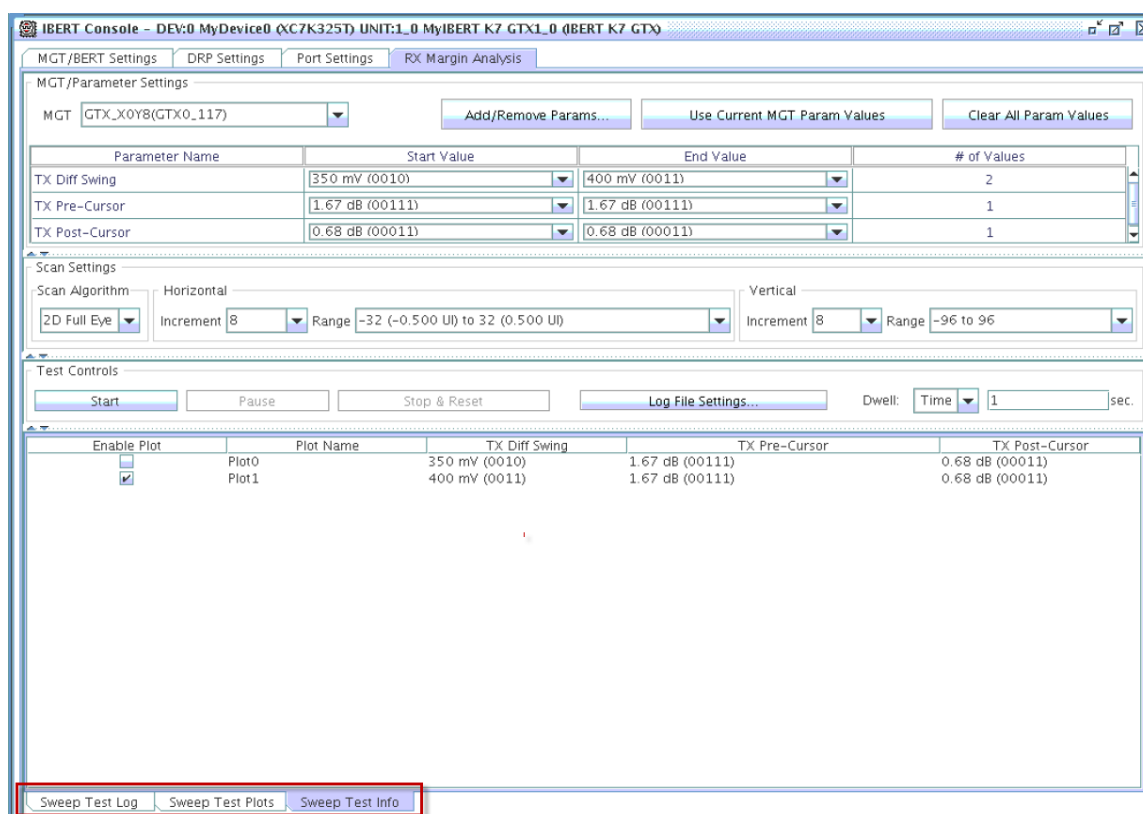

Figure 12: Sweep Test Info Tab Display
- Click **the Sweep Test Info** tab, shown in Figure 12: Sweep Test Info Tab Display, and find the widest eye opening and/or highest margin.